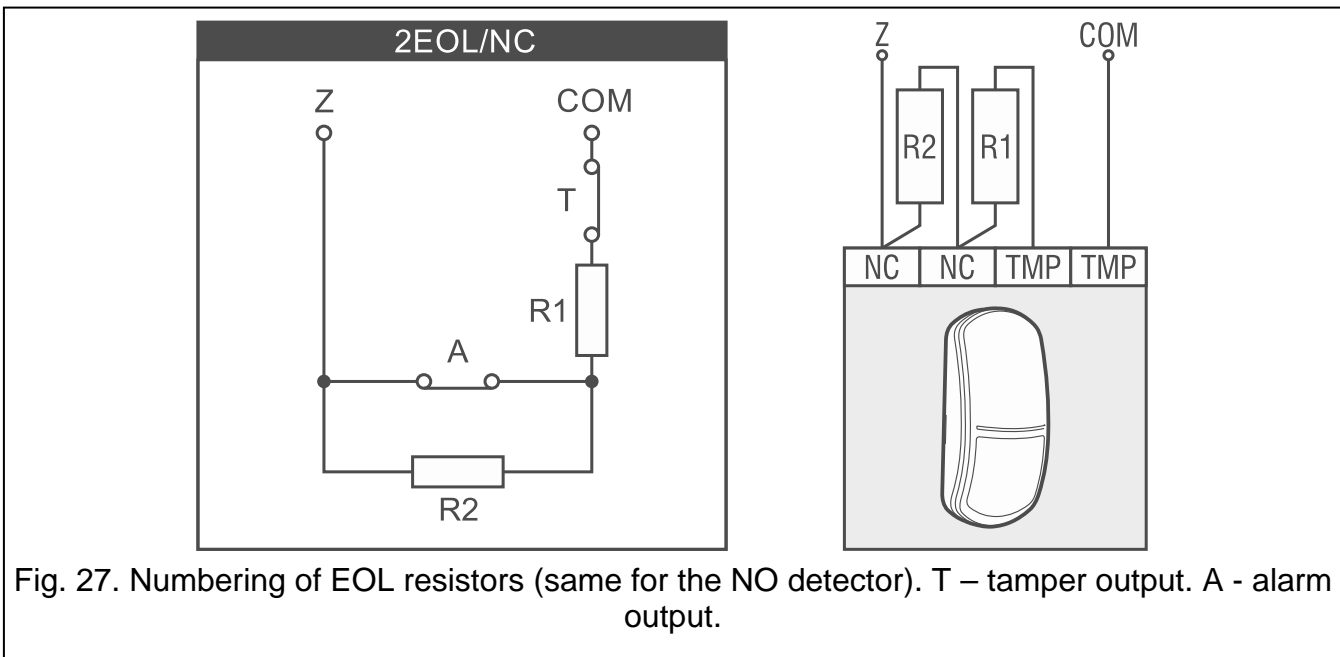

Fig. 27. Numbering of EOL resistors (same for the NO detector). T – tamper output. A - alarm output.
**R1** – value of the R1 resistor (see Fig. 27). You can enter values from 500  $\Omega$  to 15 k $\Omega$ . By default: 1.1 k $\Omega$ .
**R2** – value of the R2 resistor (see Fig. 27). You can enter values from 500  $\Omega$  to 15 k $\Omega$  or 0. If you enter 0, the value of resistors used in the Double EOL configuration must be equal to half the value programmed for the R1 resistor (the value of one resistor must not be less than 500  $\Omega$ ). By default: 1.1 k $\Omega$ .